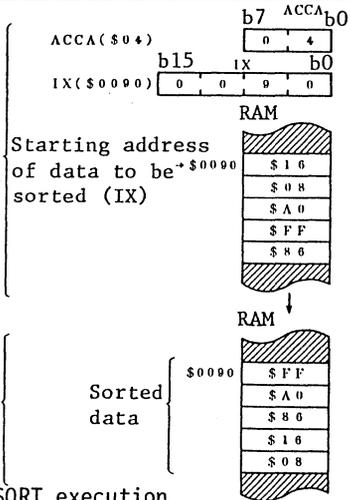

Fig. 1 Example of SORT execution
(b) Fig. 1 shows example of SORT execution. If entry arguments are as shown in part ① of Fig. 1, sorted data is stored from address \$90 in descending order (see part ② of Fig. 1).